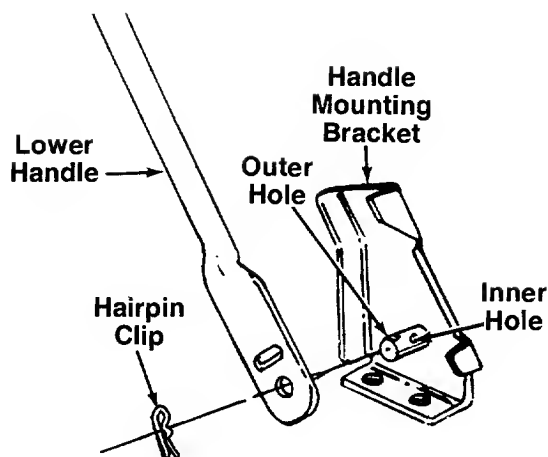

FIGURE 3.
**Type B**—Attach the lower handle by placing the bottom holes in the lower handle over the weld pins on the handle mounting brackets on the rear of the deck. Make certain the instruction label on the lower handle can be read from the operating position. Secure with hairpin clips in inner holes on weld pins. See figure 3.